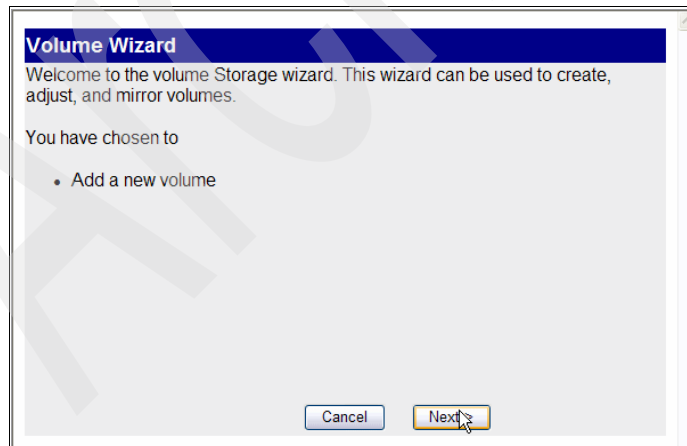

Figure 7-16 Volume Wizard: Add a new volume
2. Click **Next** to create a new volume on the filer, as shown in Figure 7-16.